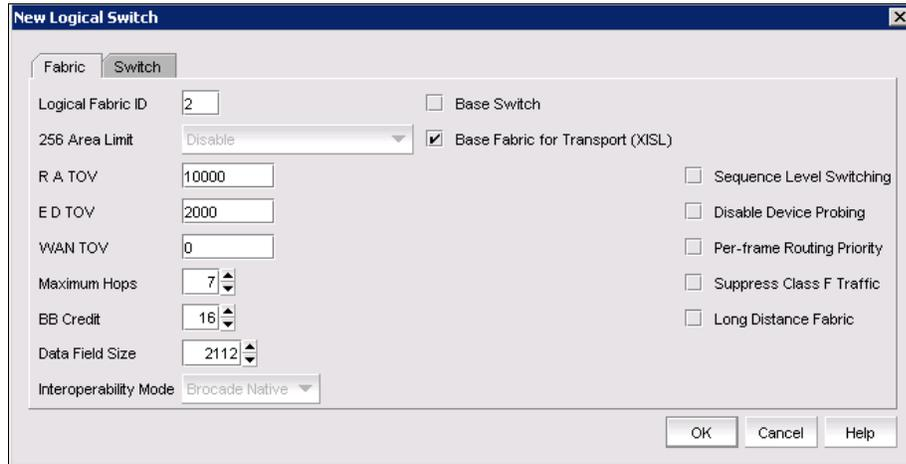

Figure 6-10 Setting FID for logical switch ITSO_7840_SiteA_FID2
- Enter the **Logic Fabric ID** for the second logical switch (Figure 6-10). Here we assign fabric ID 2 for it.